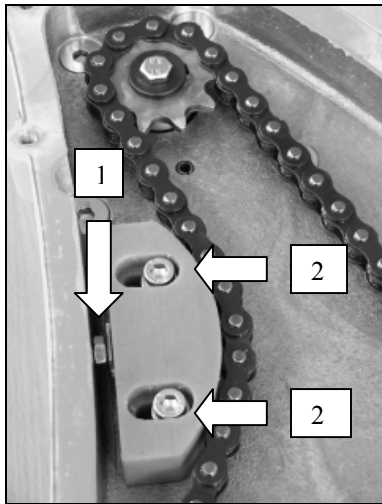

Fig. 94
- Remove the small cogwheel from the transmission shaft (Fig. 94) – CAUTION! The spring is tensioned!!!
- Fit the tensioning segment and gently tighten screws 2 (Fig. 94)